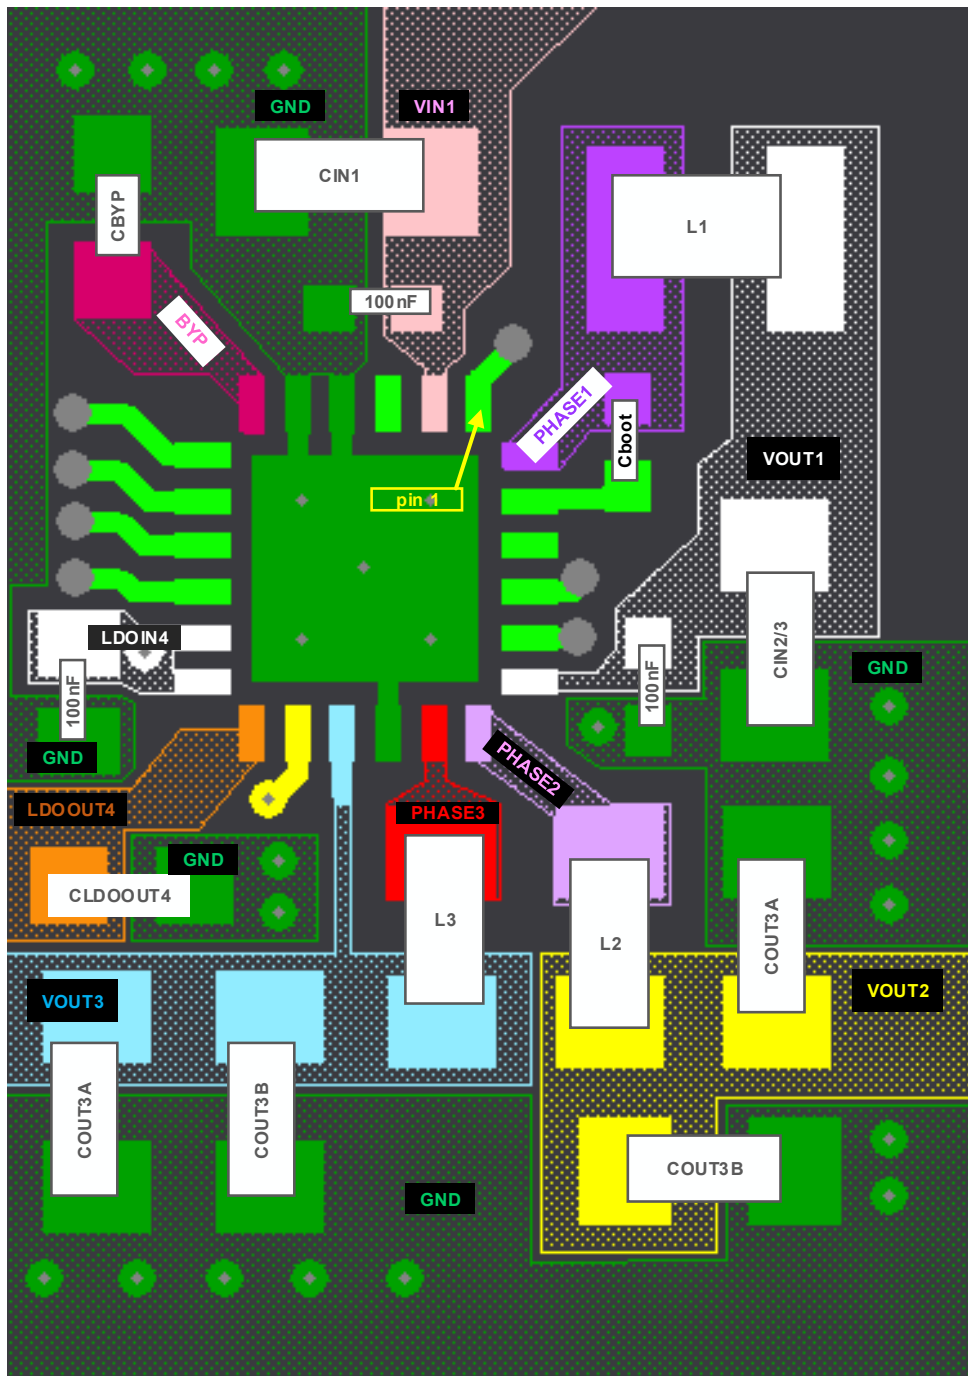

Figure 30. PCB Layout
- Route the feedback for Buck2 on an inner layer, connecting from COUT2 to FB2 (Pin 22). FB2 is a noise-sensitive input. Route the trace so that it avoids passing underneath the inductors L2, L3, or L1, and also avoids passing underneath under the PHASE signals or pins. Renesas recommends routing the trace on an inner layer, going around COUT3, and then routing to Pin 22. VOUT2 (Buck2 output) and the FB2 pin are shown in yellow in Figure 30.
An example PCB layout is shown in Figure 30.